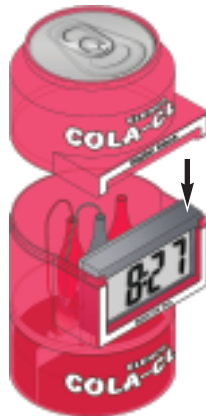

Figure 4
- Pass the clock through the middle case from the bottom, then slide the clock into the case as shown in Figure 4.